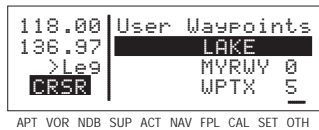

Figure 3-173
1. Turn on the cursor and position it over the desired waypoint (figure 3-173). If there are more than three user-defined waypoint, you will have to scroll the cursor down the list.